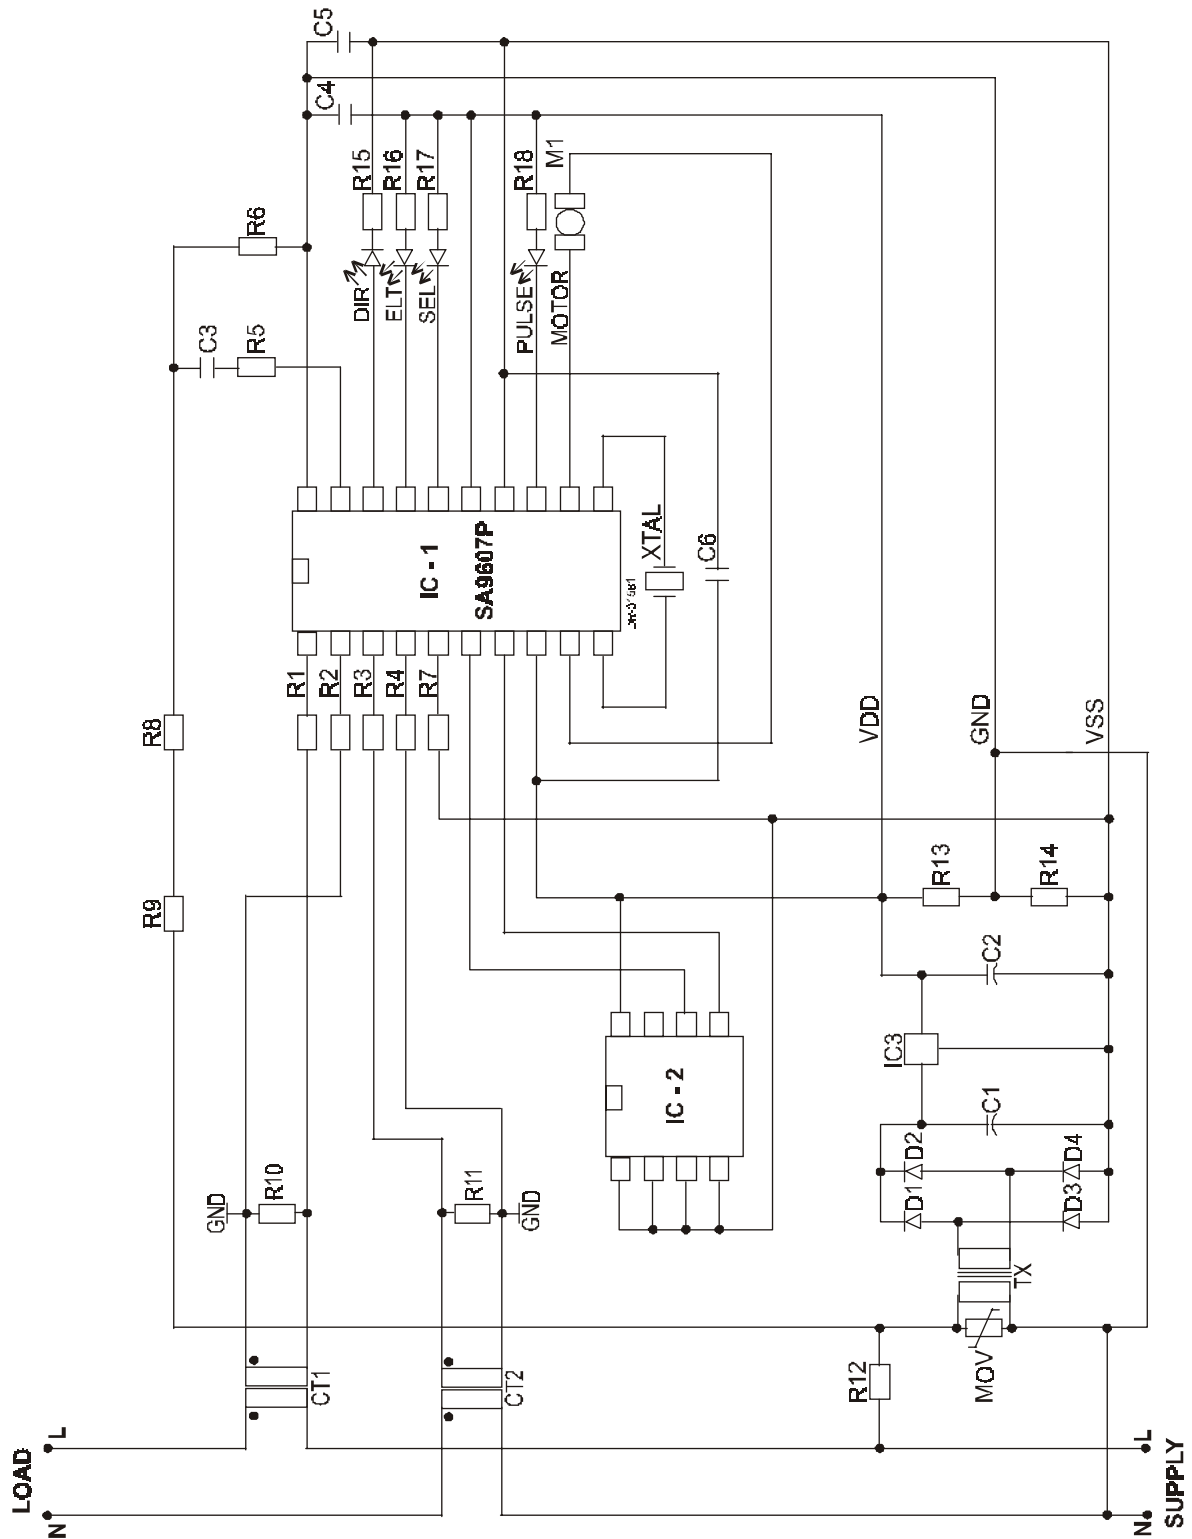

Figure 7: Application Circuit
In Figure 7, the components required for a stand-alone power metering application, is shown. Application modules as well as application notes for the SA9607P and SA9607M Integrated Circuits are available on request.
**SA9607P****sames****Parts List for Application Circuit: Figure 7**